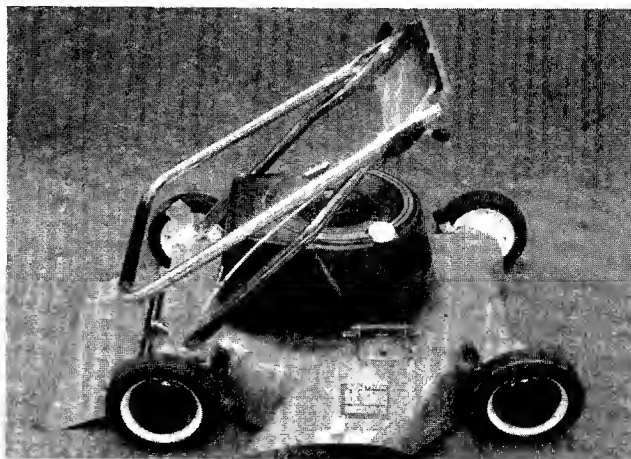

FIGURE 20. Units With Folding Handle
4. Fold the upper handle back and down as shown. See figures 20 and 21.